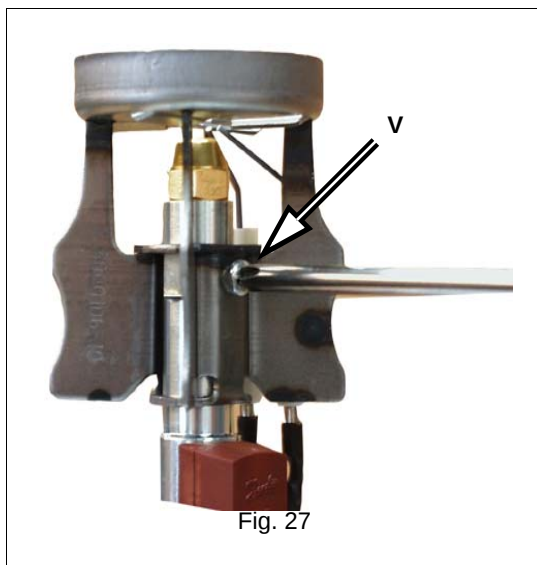
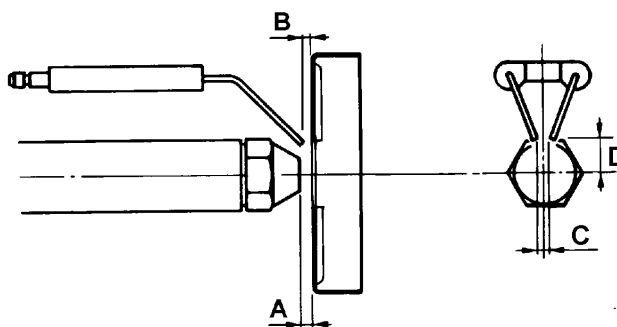

Fig. 27
Fig. 29
- disassemble, check and clean of the combustion head. When re-assembling carefully observe the measures quoted in Fig. 29;
Before disassembling the nozzle and the electrodes, disconnect the cables CV (Fig. 27), measure the positions quoted in Fig. 29 and make a note in the table on Tab. 6.
- 7 Unscrew the V screw that fastens the combustion head and remove the head from the nozzle-holder (Fig. 27 - Fig. 25)
⚠ Reassemble the combustion head by respecting the position "A" measured previously, making sure to fasten the V screw (Fig. 27)
⚠ Before disassembling the nozzle, measure the real position "A" (see Fig. 29) and make a note in the table below.